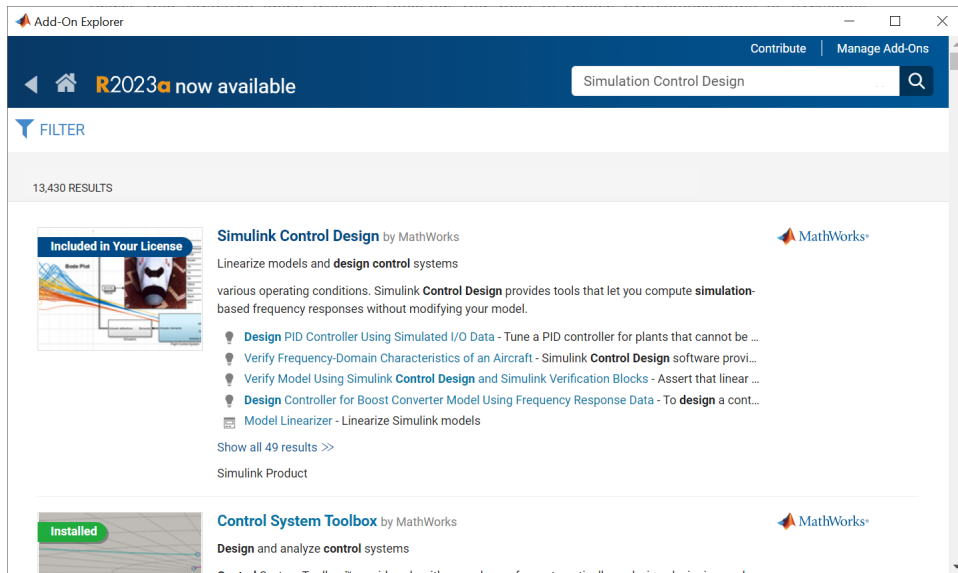

Figure 2: The “Add-On Explorer” dialog with “Simulation Control Design” hovered in navy blue text.
2. In the search bar of the “Add-On Explorer” dialog opened, search for “Simulation Control Design”. It is the first hit in the results listed in Fig. 2.
Proceeding from Fig. 2, click on the Simulation Control Design add-on to select it.